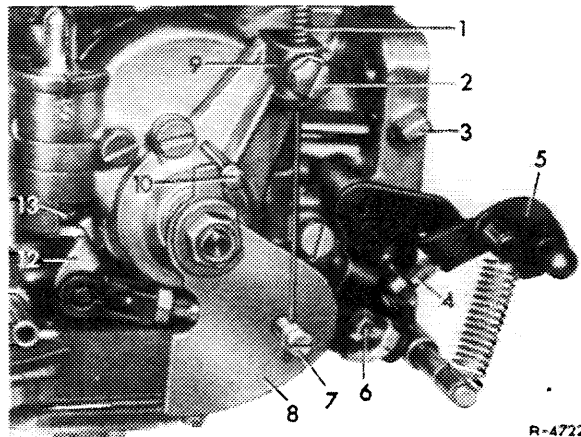

Fig. 07-3/9
2 Push starter disc (8) up to stop (10). Push starter cable inwards until the distance between starter cable knob and instrument panel is approx. 1 mm. Clamp starter cable to starter disc (8) (Fig. 07-3/9).